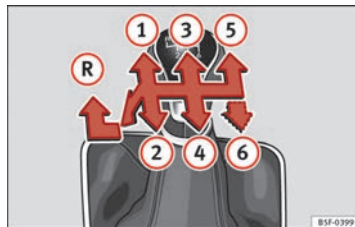

Fig. 123 Gear shift pattern of a 5 or 6-speed manual gearbox
The position of each of the gears is shown on the gear stick ⇒ Fig. 123.
- Move the gearbox lever completely to the left and then forwards to position it in reverse gear ⇒ Fig. 123 (R).